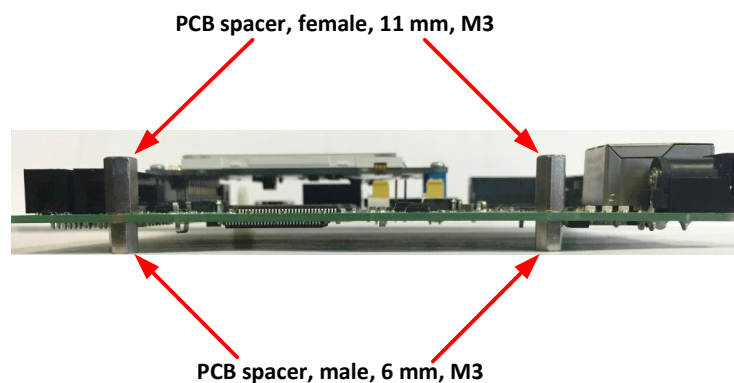

Figure 3-2 Spacers replacement
2. Replace them with the two spacers provided with the Adaptor board as shown in Figure 3-2